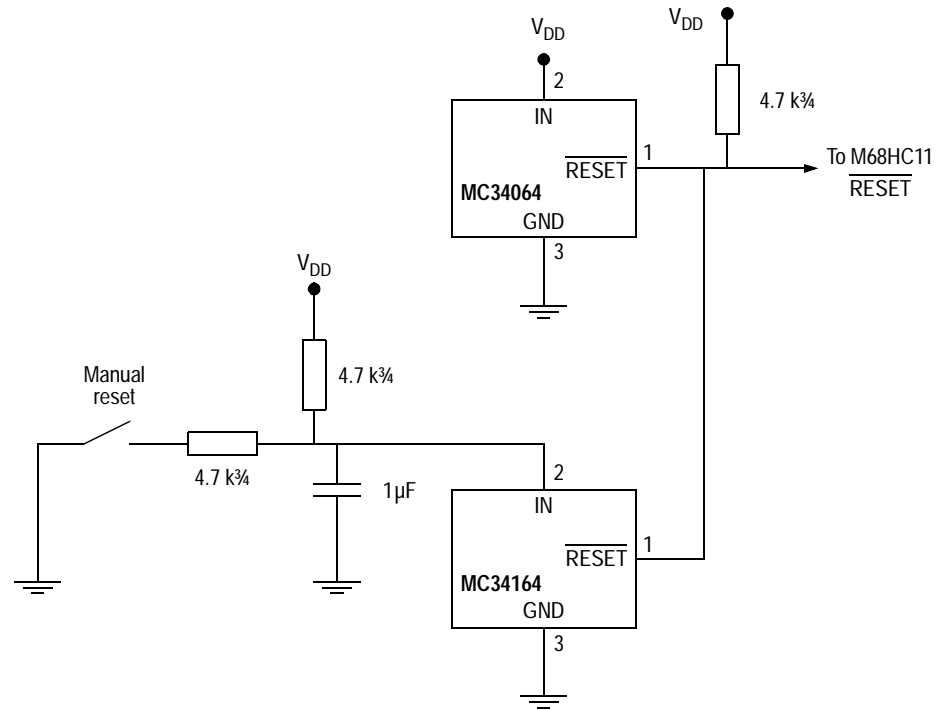

Figure 2-2. External reset circuitry
**Figure 2-2** illustrates a typical reset circuit that includes an external switch together with a low voltage inhibit circuit, to prevent power transitions, or RAM or EEPROM corruption.